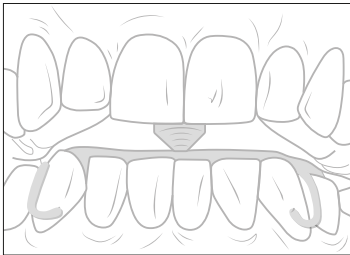

Fig. 3
**13.** The opening and closing movements make it possible to check in the mouth and see whether the tip of the arrow snaps into the hole of the Plexiglas roundel (Fig. 3).